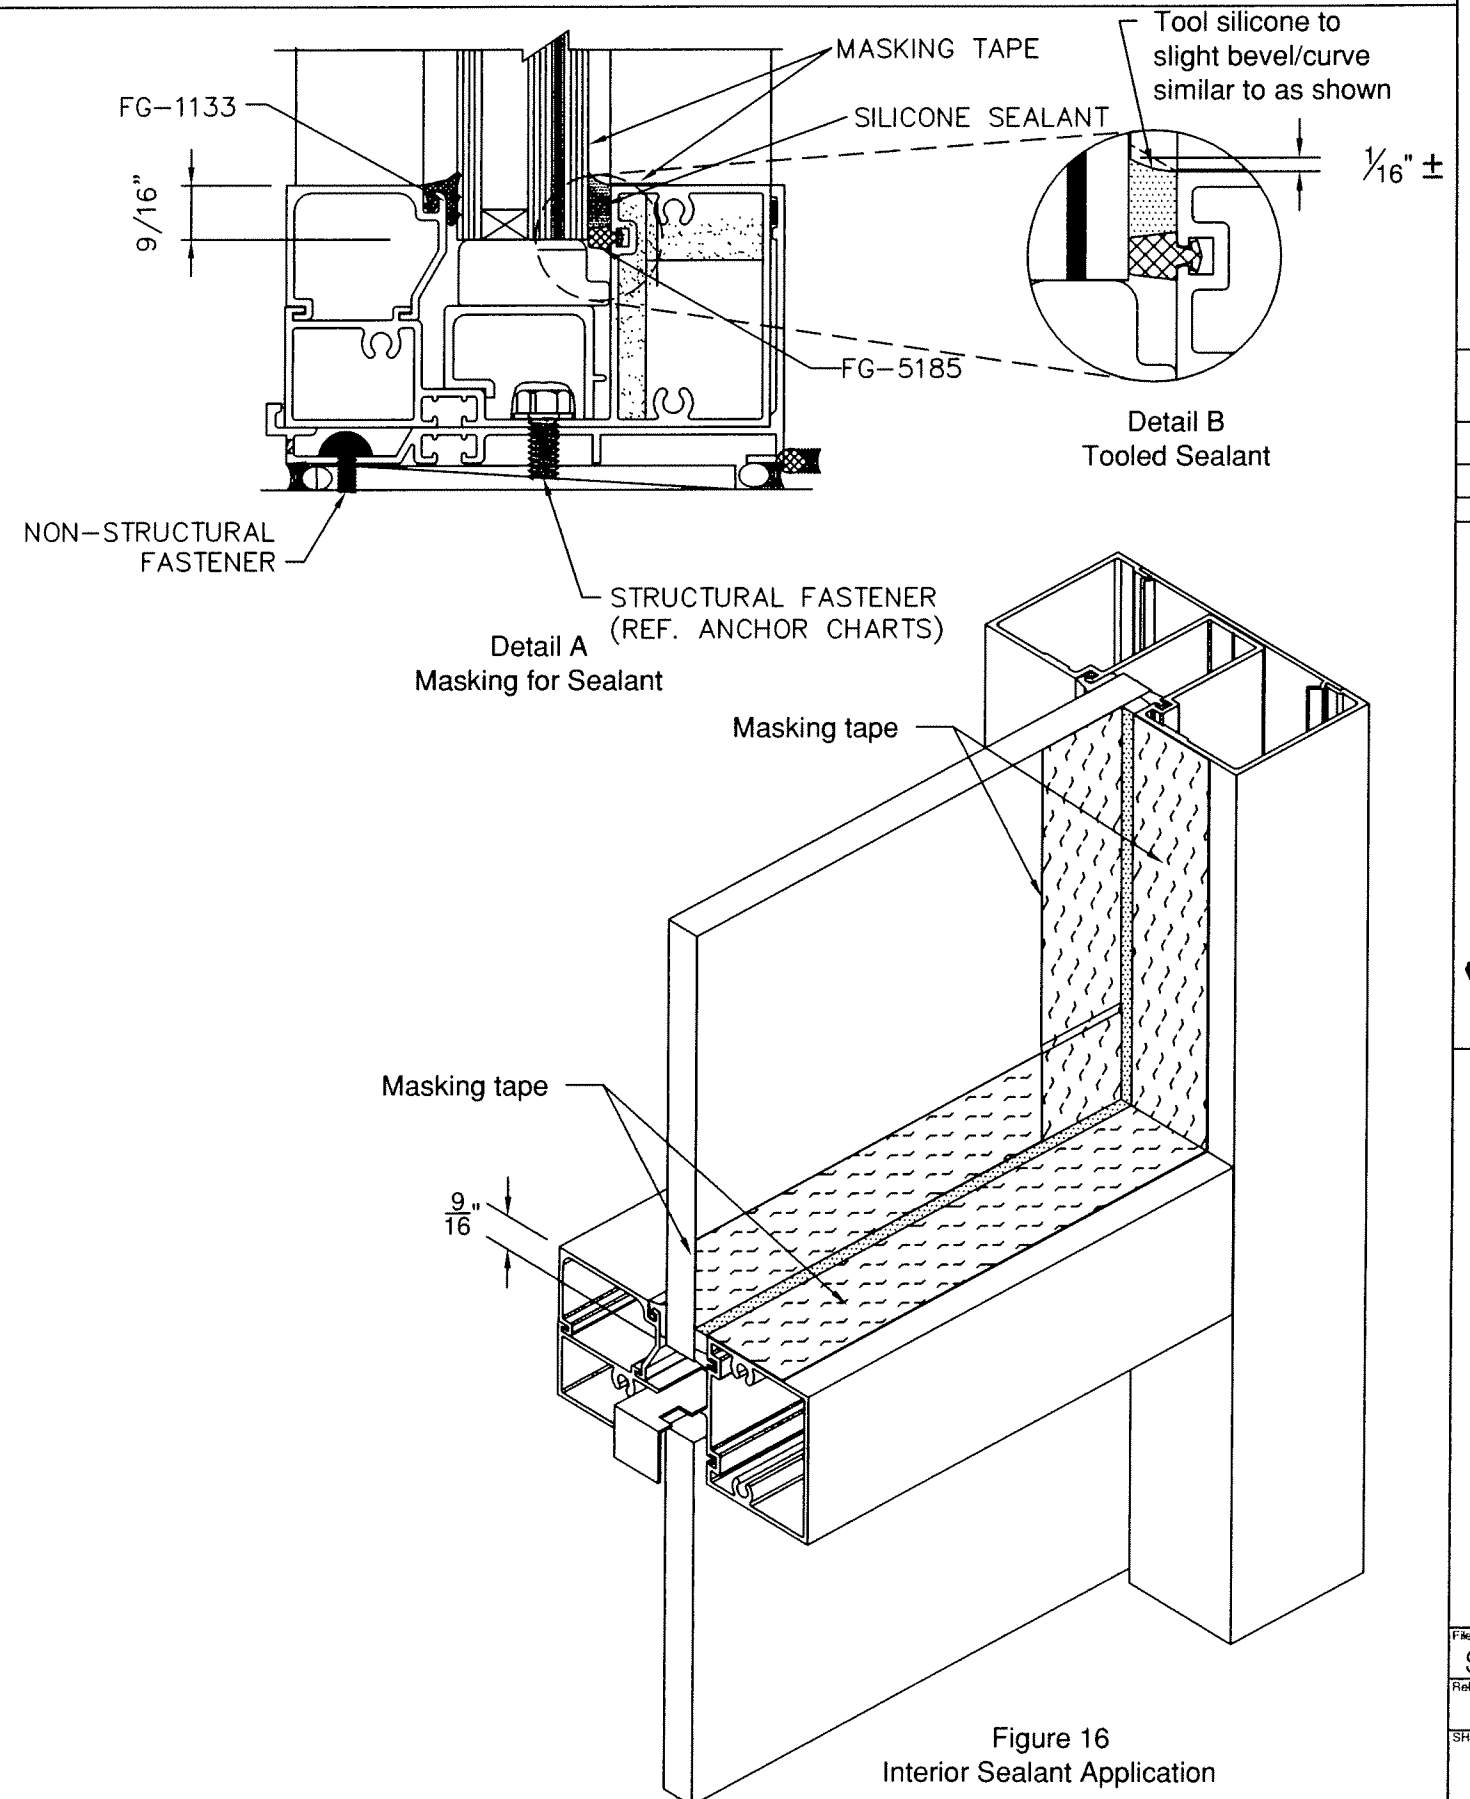

Figure 16
- 4.2.1 Set glass into opening, push in to deep pocket first, at sill place glass on FG-5225 setting chair, then after centering in DLO, pull glass up and position FG-5186 setting block on setting chair (at 1/4 points) **See figure 16 on sheet 10.** At horizontal same procedure is used, except no setting chair is used.
4.2.6 Mask off glass and aluminum with 1" wide (minimum) low adhesion masking tape. **SEE Figure 16.** Working a single DLO at a time, Fill cavity around full perimeter of DLO with Dow Corning® 995 sealant as shown, care should be taken not to leave any voids and eliminate air bubbles in sealant (**See Detail. A**). Immediately tool , creating a finished joint with a beveled/curved joint surface **See detail B above right**.